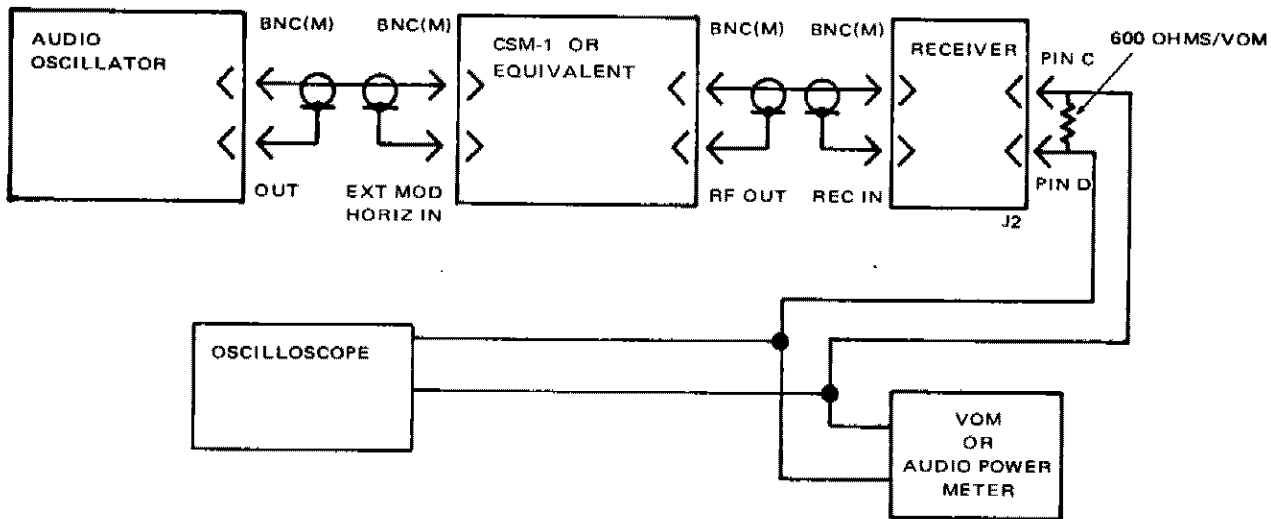

Figure 6-7. Test Setup for Audio Frequency Response
**6.9 AUDIO FREQUENCY RESPONSE.-** The purpose of this procedure is to determine if the audio frequency response of the receiver is within tolerance (see section 4). Figure 6-7 shows the test setup.